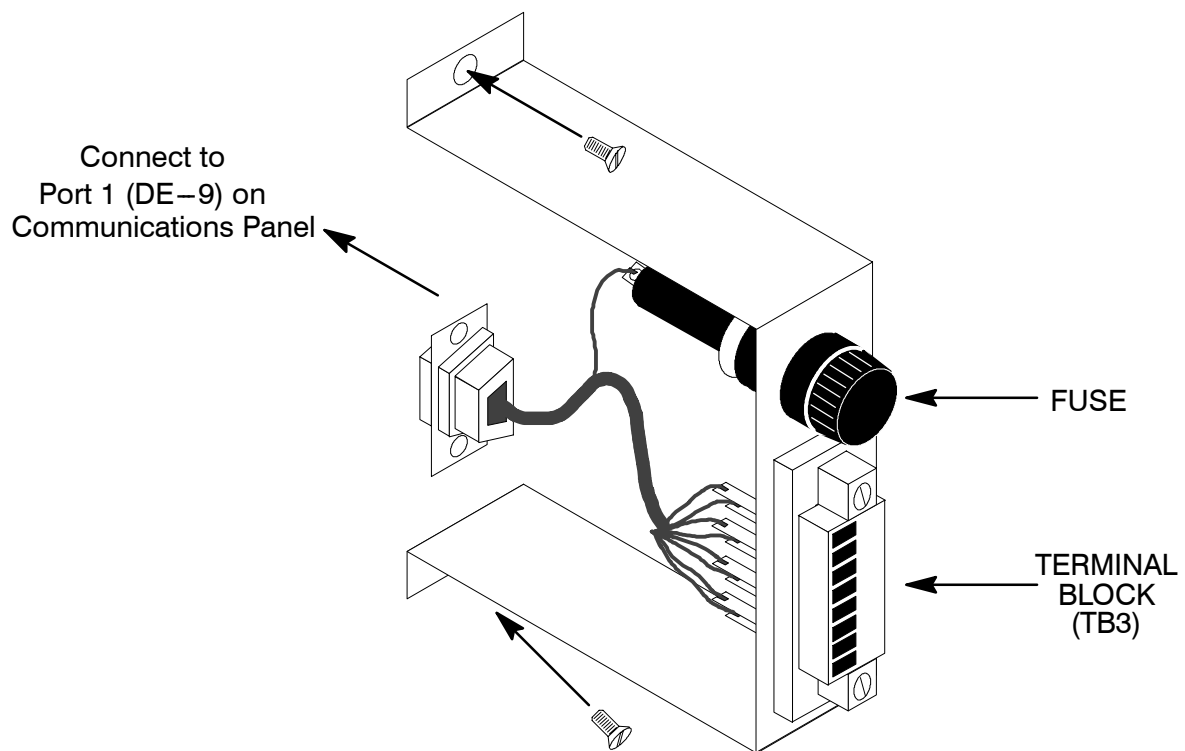

Figure 27. Terminal Block Bracket
3. In the spare parts kit locate the RMP Adapter Cable assembly (see Figure 27). Mate the DE–9 connector on the back of the terminal block into the DE–9 connector on the Communications Panel of the UPS (see Figure 28). Use two screws from the spare parts kit to secure the terminal block plate to the Communications Panel.